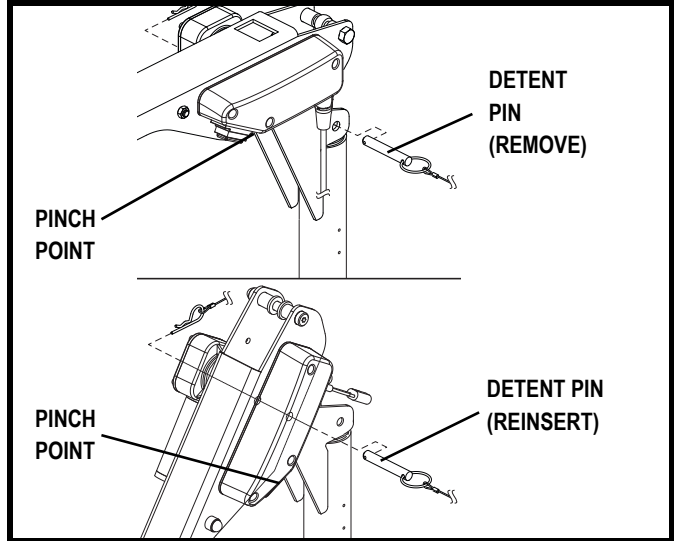

Figure 4. Securing The Boom Arm
1. Remove the clevis pin located between the boom arm and upper post. Guide the boom arm downward until it is parallel with the upper post. See figure 4.
2. Reinsert the clevis pin into the top of the upper post to secure the boom arm in place. See figure 4.